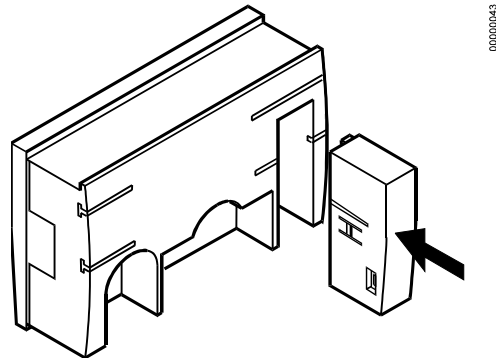

Fig. 13. Inserting application module
6. Attach the DIN rail mounting clips at the housing as shown in Fig. 13.